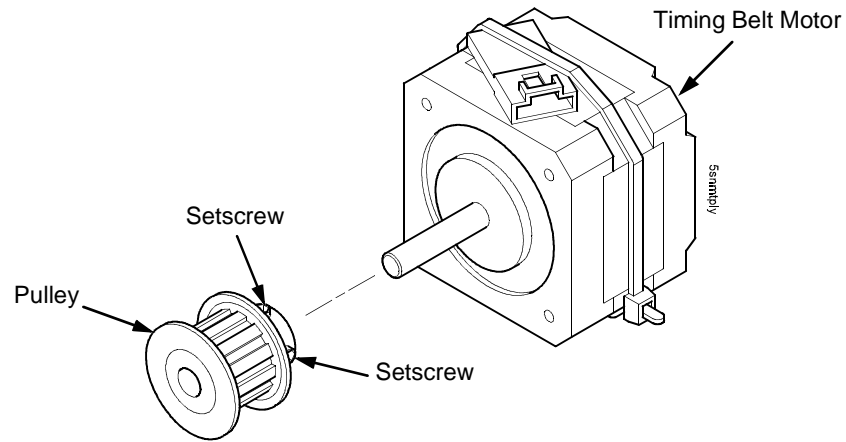

Figure 90. Removing the Timing Belt Motor Pulley
5. Loosen the two setscrews on the motor pulley and remove the pulley. Unplug the motor cable, if necessary. (Figure 90.) Go to step 6.